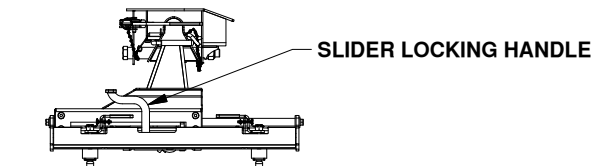

Figure H1: Side view of Slider Base. LOCKED HANDLE POSITION
3. Pull the truck forward slowly until the handle falls and is in the locked position, shown in Figure H1.
7. Move the truck slowly in reverse until the handle falls and is in the locked position, shown in Figure H1.